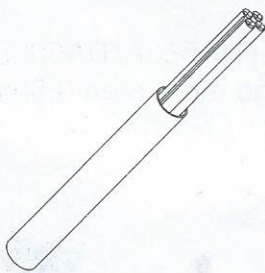

Fig.1
1) Strip the cable for minimum 4cm (Fig. 1)